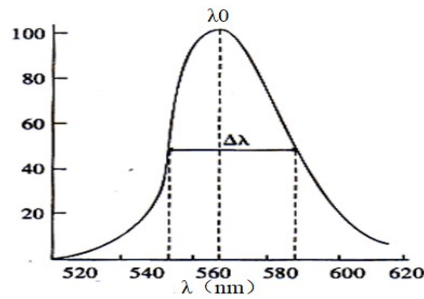

Figure 6 Example of spectral distribution and peak wavelength of LED
- g) Spectral distribution and peak wavelength: The light emitted by a certain LED is not a single wavelength, and its wavelength is generally shown in Figure 6 (for example).